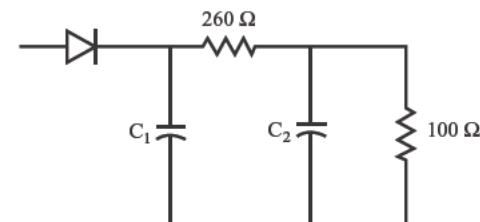

FIGURE 11.42
- 22** Figure 11.42 shows the half-wave rectifier circuit with the 260-ohm value you calculated for R_i .
- A.** How long should the discharge time constant be for the circuit in Figure 11.42?